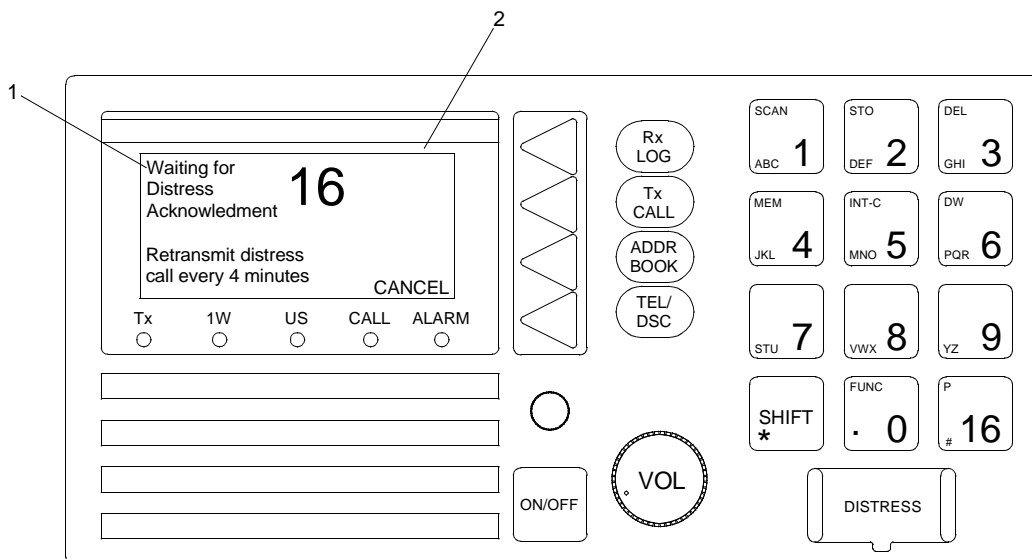

Figure 3. Waiting for Distress Acknowledgement Message
4. Verify the Waiting for Distress Acknowledgement message (figure 3, item 1) appears in the LCD display (figure 3, item 2).